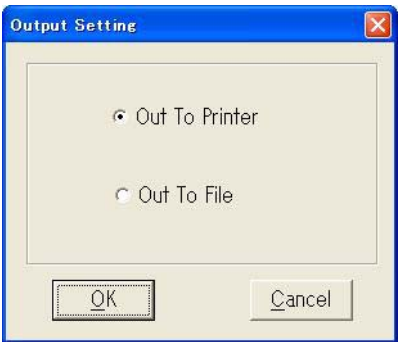

Fig. 4-8-7 Output Setting
- 6 If you want to print the detailed inventory information, please click **Print All** button, the **Output Setting** window will appear like Fig. 4-8-7.